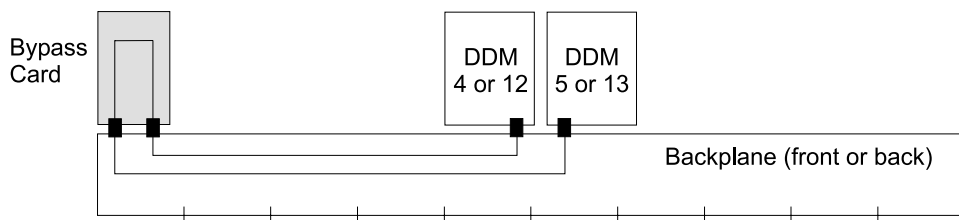

Figure 55. SSA Link Failure, Bypass Card and Two DDMs (S008143l)
- The failing link is between two center DDMs, on the same backplane, and the bypass card they are connected to. See Figure 55.